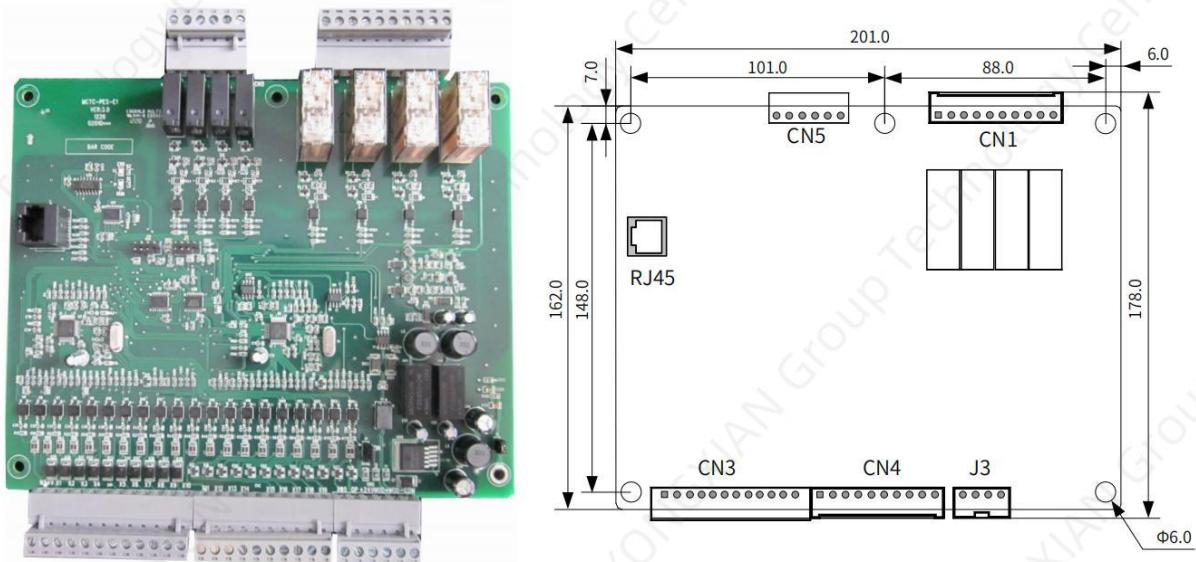

Figure 2-2 Physical appearance of the control board (Unit: mm)
- 1) Process the installation side in the main control cabinet. For the processing dimensions, refer to Figure 2-2.